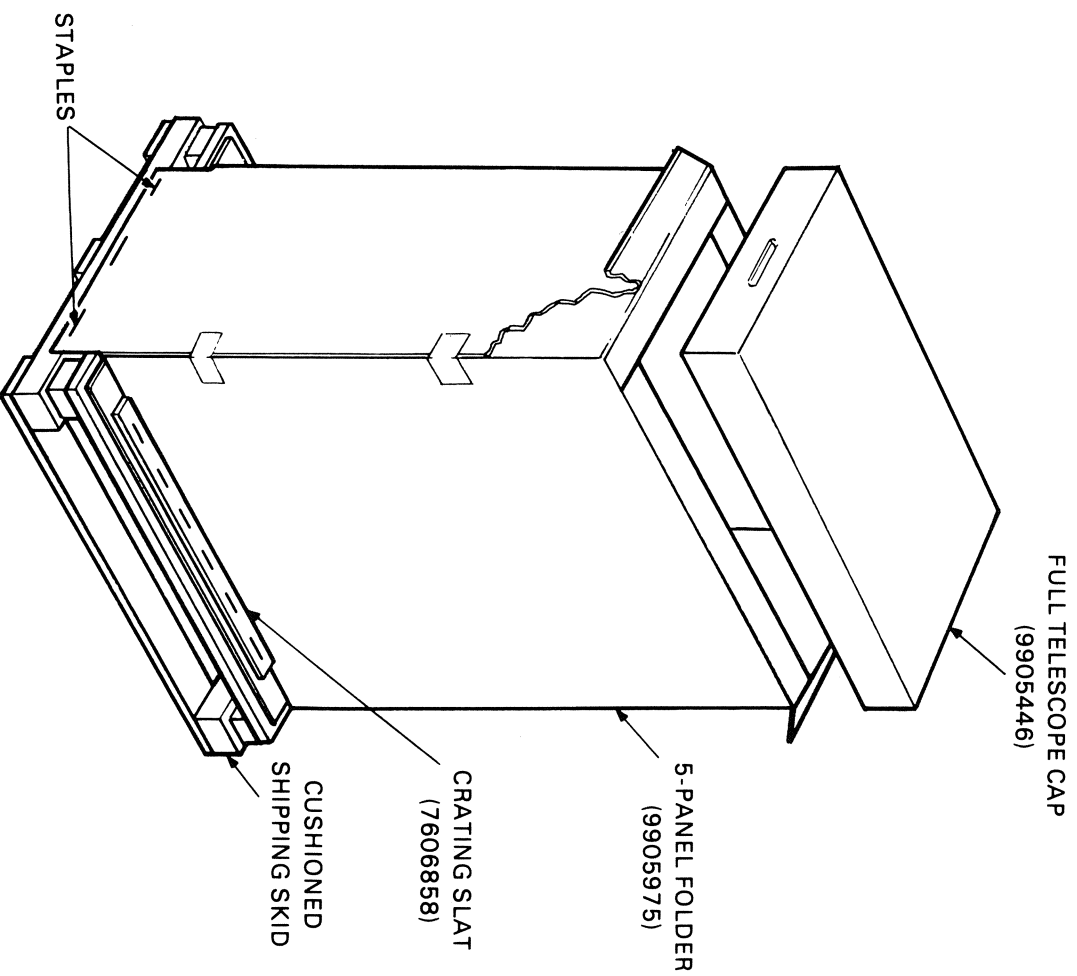

Figure 2-22 H950 Shipping Package
1. When delivered, each drive and its associated cabinetry is enclosed by a heavy cardboard carton. If the drive is shipped with a system and mounted in a cabinet, then the carton is attached to a shipping skid (Figure 2-22). Remove the plastic straps that secure the shipping carton to the skid.